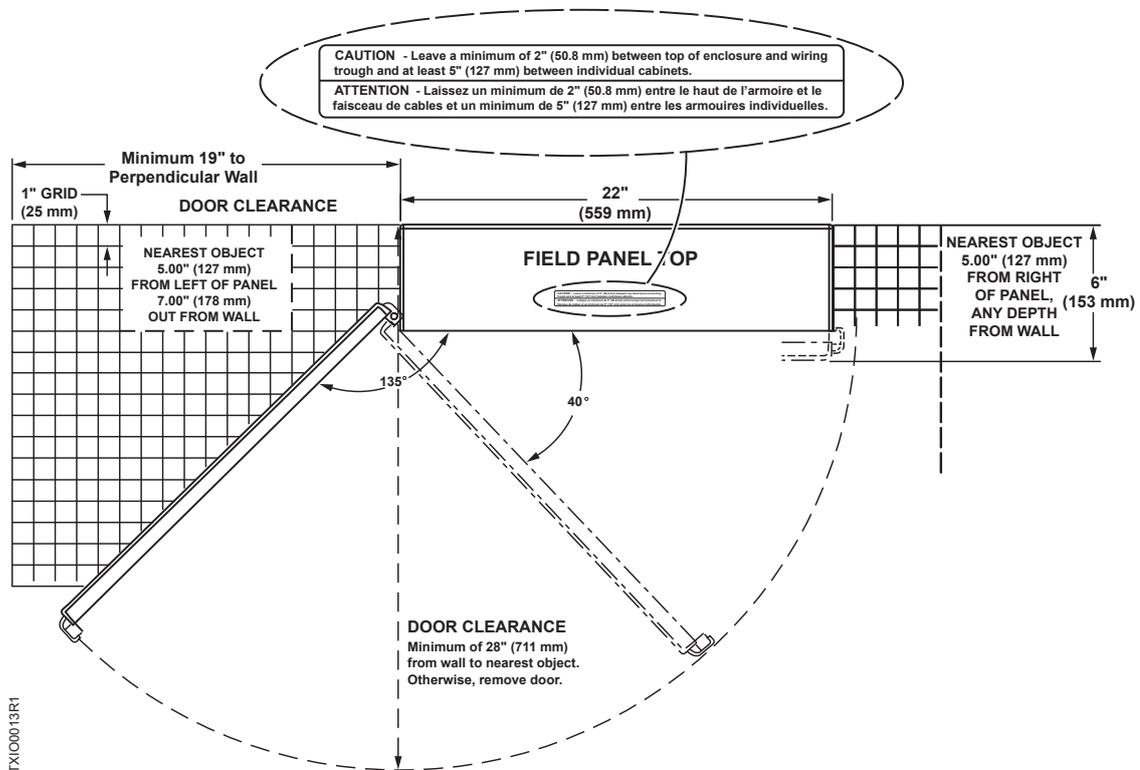
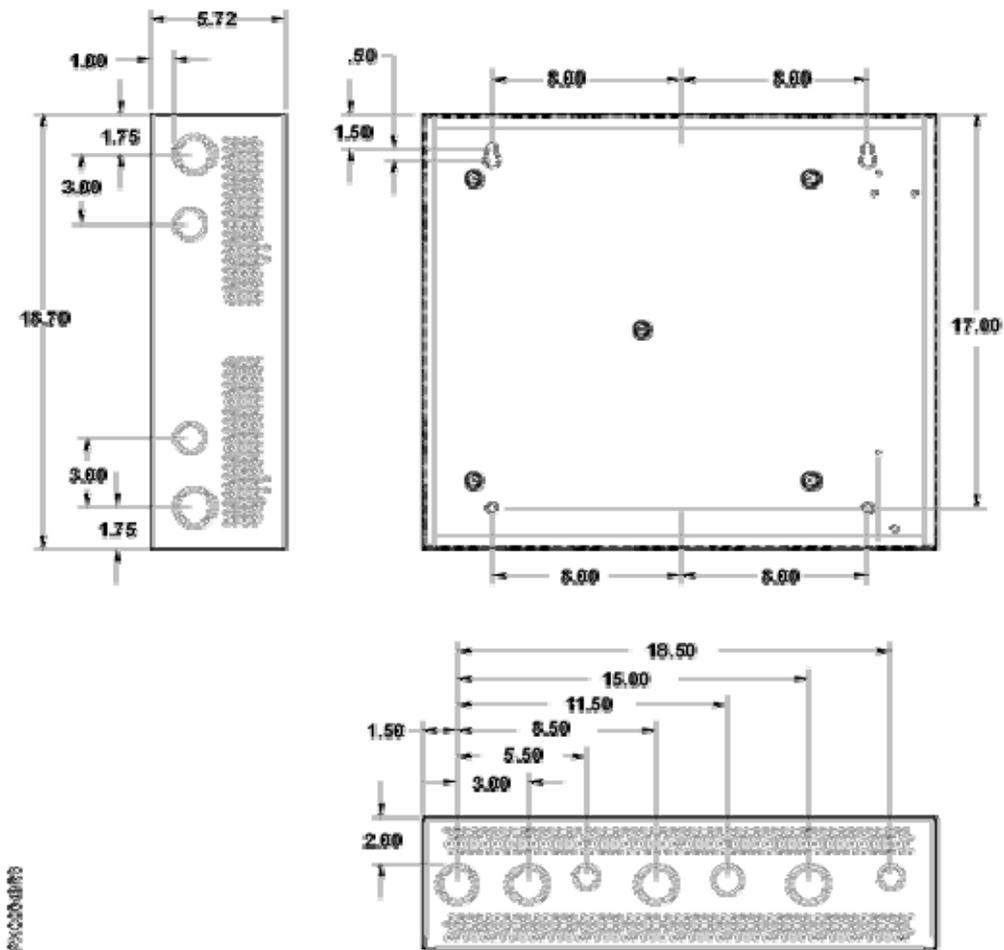
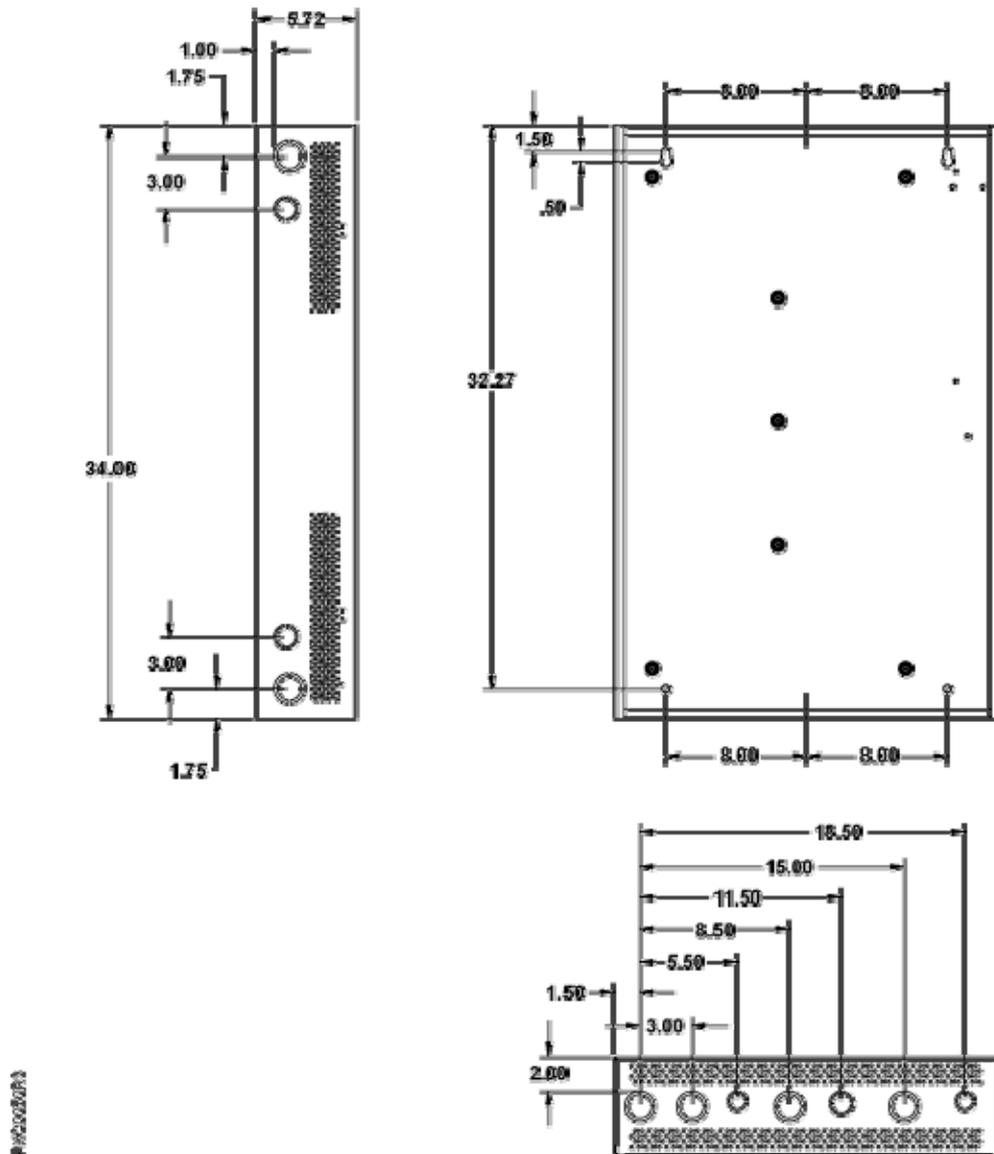
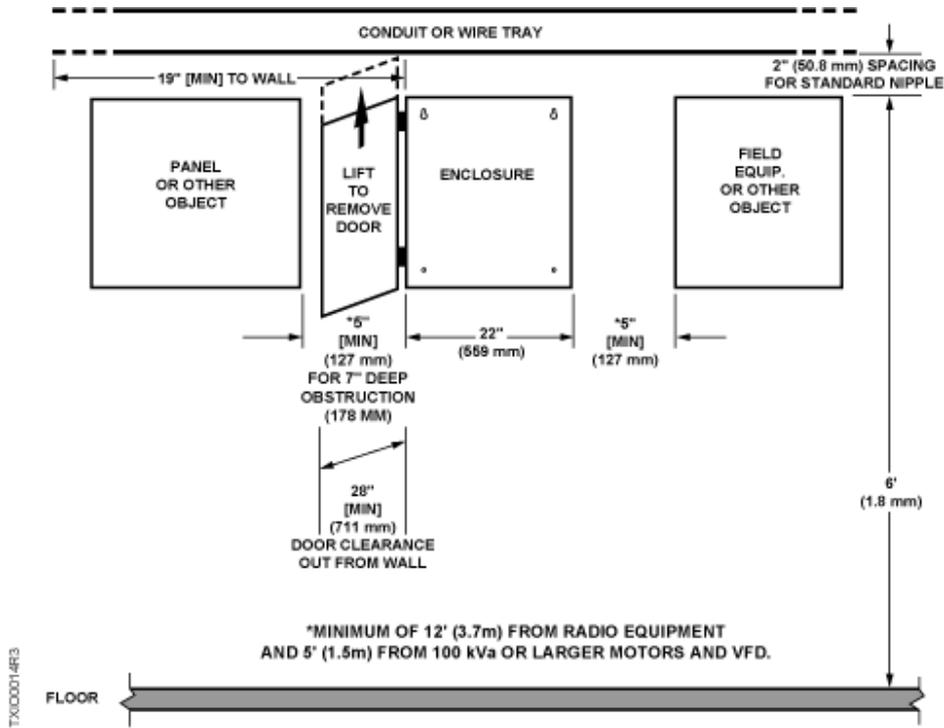

Figure 3. Spacing Requirements.
Figure 4. 19'' PX Series Enclosure Dimensions.
Figure 5. 34" PX Series Enclosure Dimensions.
Figure 6. 19" and 34" PX Series Enclosure Placement.
See Figures 4 and 5 for enclosure dimensions.
1. Determine the mounting location of the enclosure using the spacing requirements shown in Figure 3 and Figure 6. See Figure 4 and Figure 5 for panel dimensions.
- Minimum spacing between the panel and any left (hinged side) obstruction is 1 inch spacing for every 1 inch of depth, starting at 5 inches (127 mm) to the left (see Figure 6).
- Minimum spacing between the panel and any right (lock side) obstruction is 5 inches (127 mm) to the right at any depth (see Figure 6).
14. Run conduit and pull wires into the panel. Be sure to leave enough wire for future changes or additions, and to allow for full door swing clearance (see Figure 6).